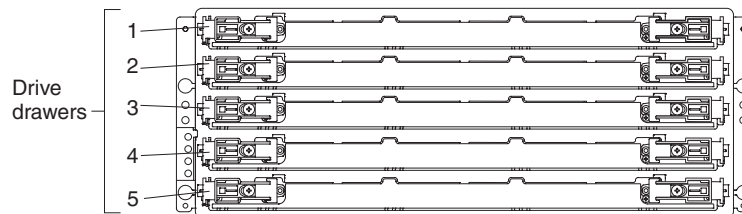
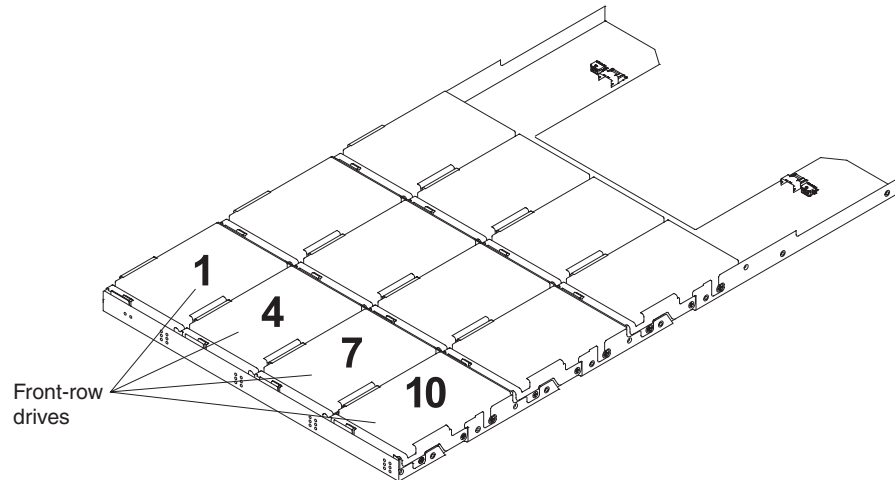

Figure 1. EXP5060 hot-swap drive drawers
Figure 2. EXP5060 drive drawer
The EXP5060 storage expansion enclosure has five removable drive drawers that are accessible from the front of the enclosure (see Figure 1). Each drive drawer can contain from 4 to 12 disk drives (see Figure 2 on page 5). With the drive drawers fully populated, the EXP5060 can support up to 60 SATA DDMs.
**Important:** The installation order within each drive drawer is from left to right in rows. Slots 1, 4, 7 and 10 must have a drive installed in these locations to make sure there is sufficient air flow to the drives (see Figure 2). To verify these slots, consult the overlay on the front of each of the five drive drawers. Make sure the four drives in each row are adjacent to each other. The long edge of each drive should touch the drive next to it. To maintain a uniform airflow across all drive drawers, the storage expansion enclosure must be configured with a minimum of 20 drives, with four drives in the front row of each of the five drive drawers.